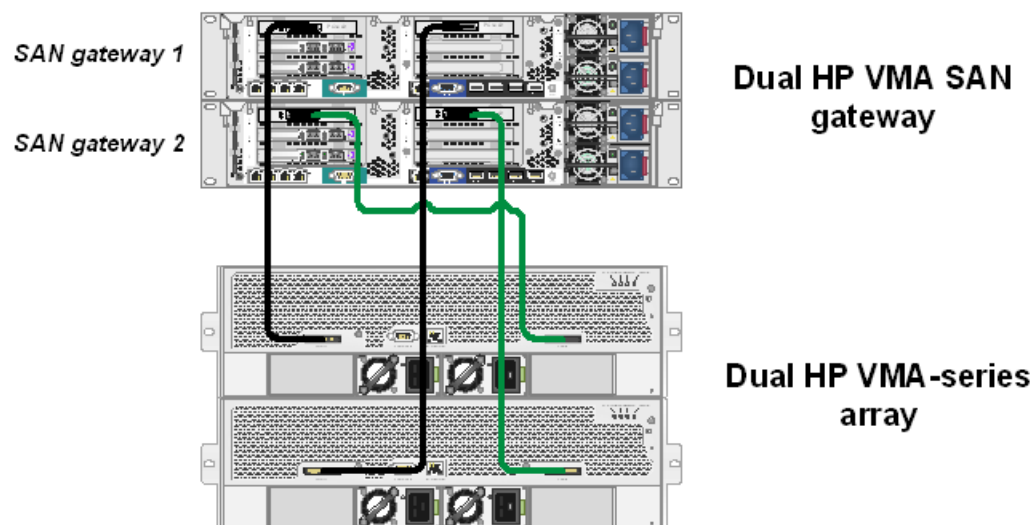

Figure 1.2 Redundant gateway pair of VMA-series SAN Gateways with 2 HP VMA-series Memory Arrays, Highly Available
Figure 1.2 shows the most common configuration, a High Availability (HA) pair of VMA-series SAN Gateways that provide redundant access to a group of up to two HP VMA-series Memory Arrays.